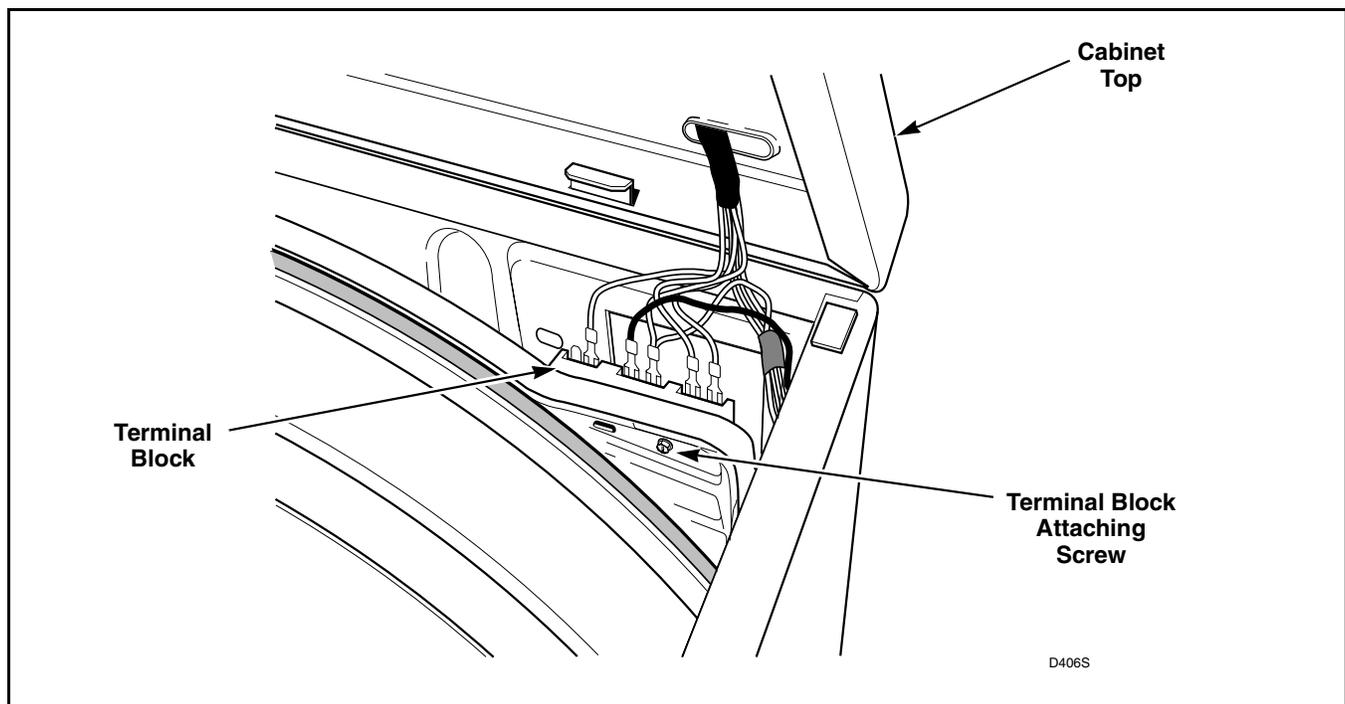

Figure 39
- (2) Remove all wires from terminal block. (Refer to appropriate wiring diagram when rewiring terminal block.)
- (3) Remove screw holding terminal block to rear bulkhead. Refer to *Figure 39*.
- (8) Remove screw holding terminal block to rear bulkhead. Refer to *Figure 39*.